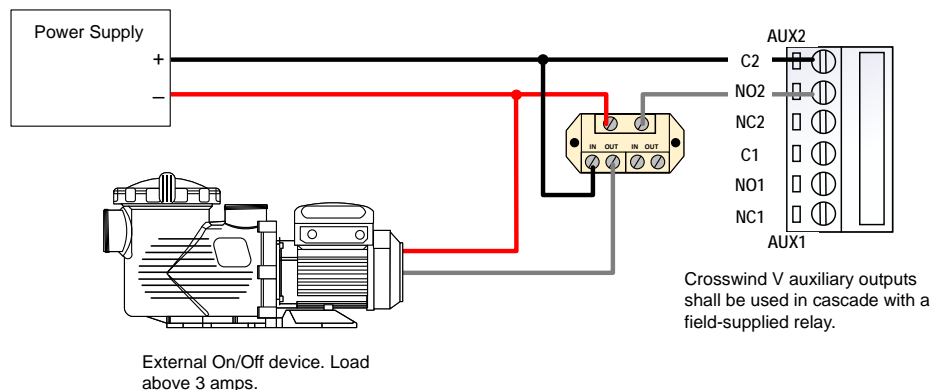

Figure 151. External Device Wiring to Auxiliary Output
- b. For applications over 3-amps, use a field-supplied relay rated to the amperage and voltage of your application, connected in cascade to the Auxiliary output of the heater. See Figure 151.